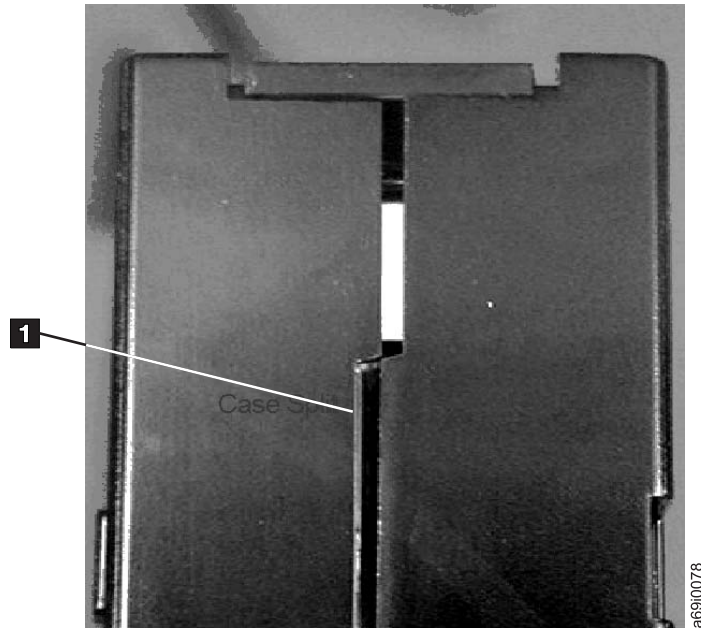
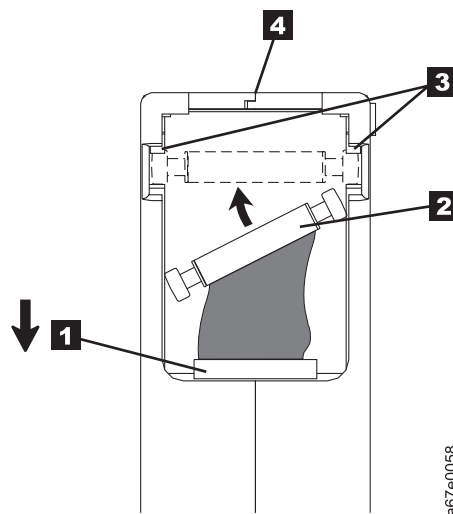

Figure 4-7. Checking for gaps in the seams of a cartridge
Figure 4-9. Placing the dislodged leader pin into the correct position. The cartridge door is open to show the leader pin.
- Inspect the rear of the cartridge (the part that loads first into the tape load compartment) and ensure that there are no gaps in the seam of the cartridge case (see **1** in Figure 4-7 on page 4-10 and **4** in Figure 4-9 on page 4-12). If there are gaps in the seam (see Figure 4-7 on page 4-10), the leader pin may be dislodged. Go to “Repositioning or Reattaching a Leader Pin” on page 4-11.
Example: Split Cartridge Case (see Figure 4-7)
1. Slide open the cartridge door (**1** in Figure 4-9) and locate the leader pin **2** (you may need to shake the cartridge gently to roll the pin toward the door).